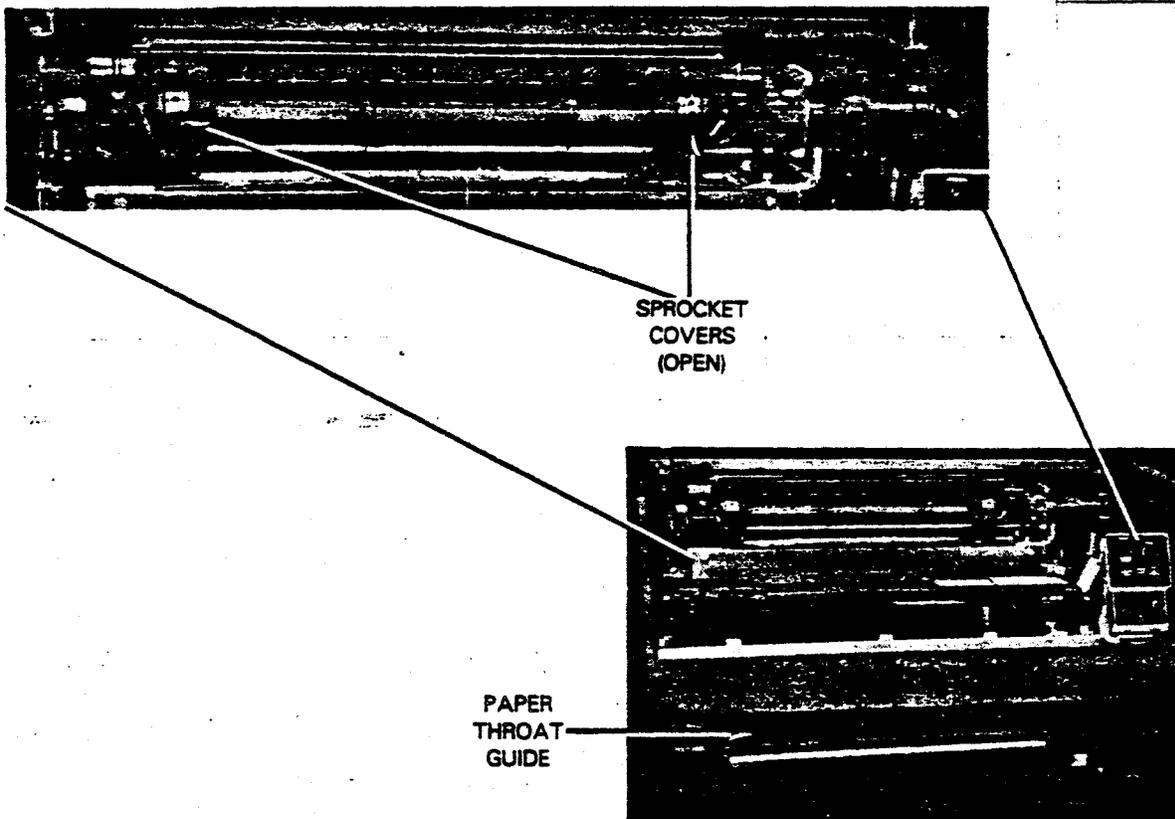

Figure 4-4. Opening the Paper Path
10. Swing both sprocket covers (Figure 4-4) open.